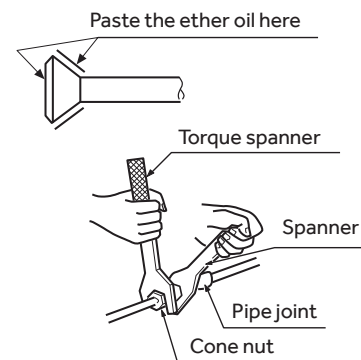

Fig. 1
See the Fig.1 & Fig.2 to install the lifting bolts and hoisting tools.
(1) Change the installation direction of electric box according to requirements following the steps below; (see Fig.1)
- ① Remove the cover of the electrical box; (2 screws)
- ② Remove the electrical box; (2 screws)
- ③ Remove the top plate; (4 screws)
- ④ Change the outgoing direction of wiring (electric valve coil) between the equipment and the electrical box;
- ⑤ Install the electrical box;
- ⑥ Rotate 180° to install the top plate;
- ⑦ Install the cover of the electrical box.
- To connect the pipes to connection kit or remove them from connection kit, do use both spanner and torque wrench, as shown in the Fig.1.
Please use the auxiliary insulation cylinder and tie wire for insulation works according to Fig.1 after the gas leakage test.